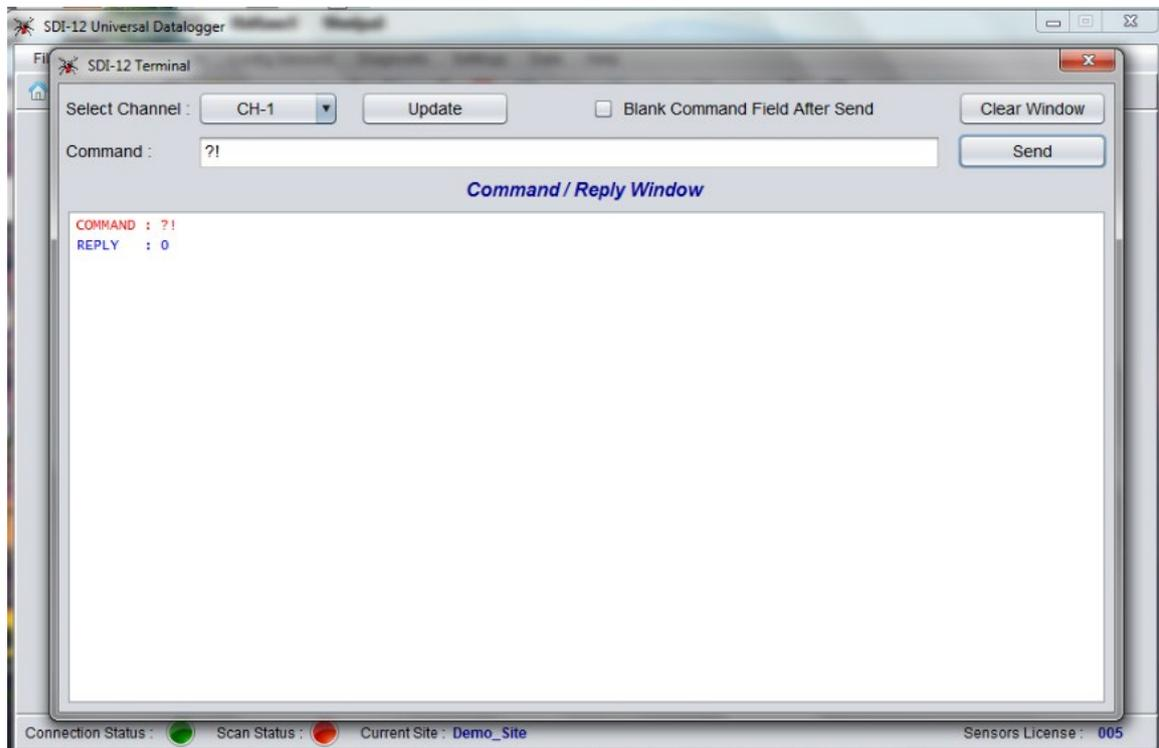

Figure 7-10 Command/Reply Window
- Now type "?!" on the "Command" bar and click "Send" to read the sensor's present address (figure 7-10).